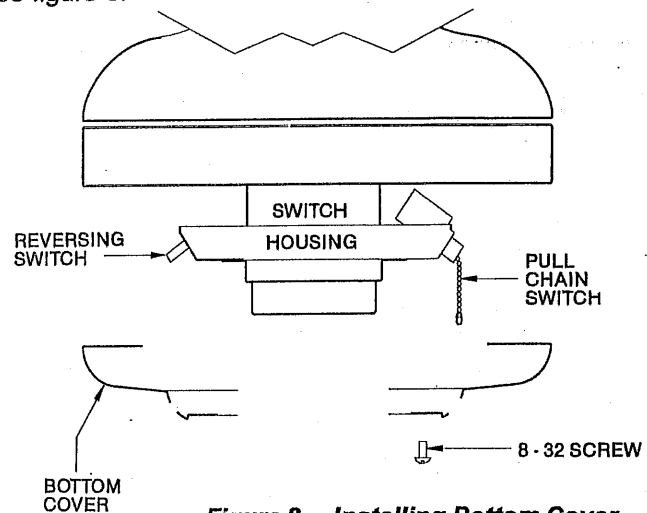

Figure 8. Installing Bottom Cover
A. Assemble the bottom cover by aligning the small rectangular hole in the cover with the fan reversing switch and the round hole in the cover with the pull chain switch. Holding the cover at an angle, you must first place the rectangular hole in the reversing switch and swing the cover up so the round hole is below the pull chain switch. Insert the chain into the round hole and swing the cover up into its final position. See figure 8.
Complete the cover assembly by attaching it to the switch housing with (3) #8-32 screws. See figure 8.